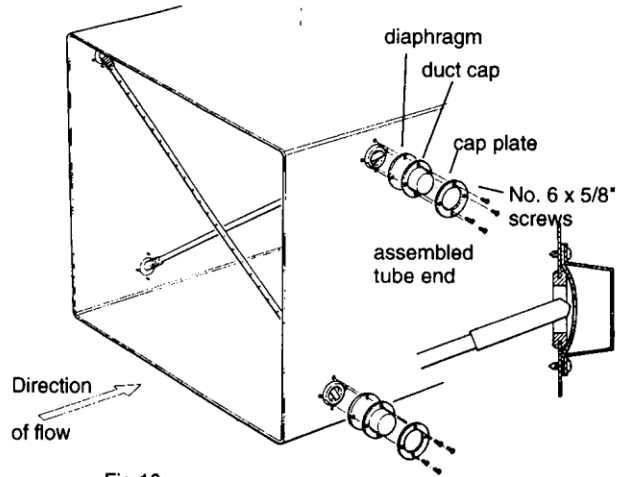

Fig.10
**6.7** Position and secure diaphragms and duct caps over protruding tubes using clamping washers and No.6 x 5/8" screws etc. (see Figs. 10 or 11).